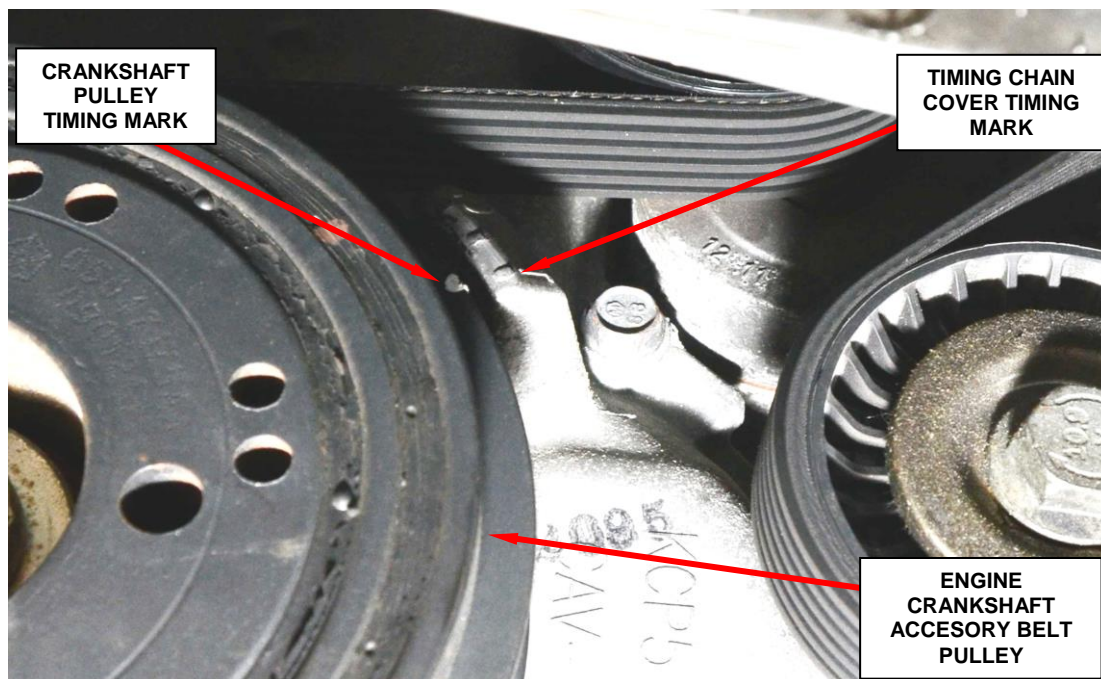

Figure 7 – Timing Chain Cover Timing Marks
1. Bar the engine over and align the timing mark on the crankshaft accessory belt pulley with the mark on the timing chain cover (Figure 7).
6. Double check the alignment marks to ensure the gear indicator and balance shaft module assembly indicator are aligned (Figure 7 and 8).